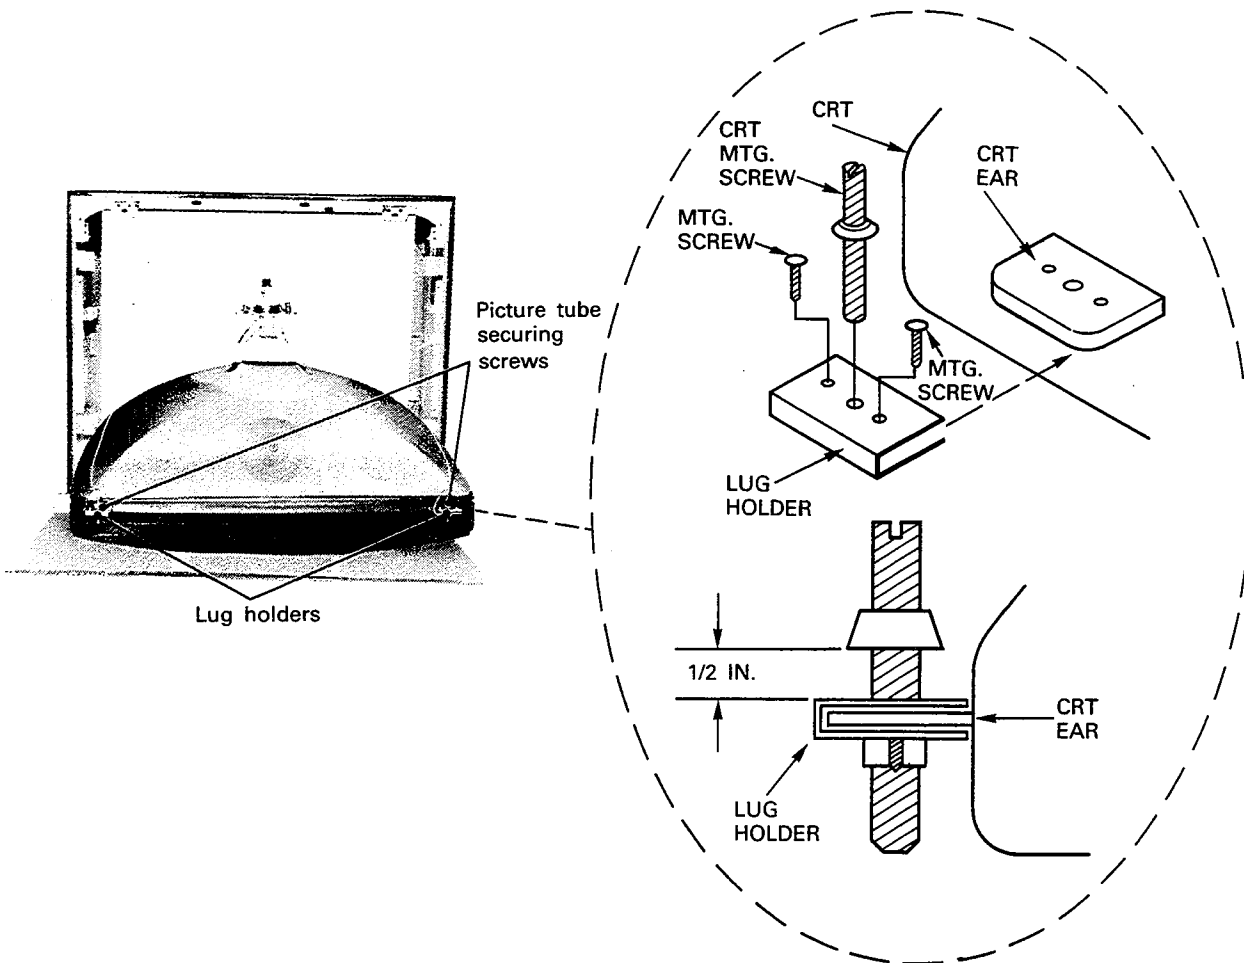

Figure 8
13. Remove the CRT mounting screw and the two philips head screws from each LUG-HOLDER, then remove all four LUG-HOLDERS. (Figure 8)
3. Install a LUG-HOLDER on each of the CRT Ears, and secure each with the two Philips mounting screw. (Figure 8)
4. Manually start a CRT mounting screw in each LUG-HOLDER, leave approximately 1/2 inch between the bushing on the screw and the LUG-HOLDER. (Figure 8)